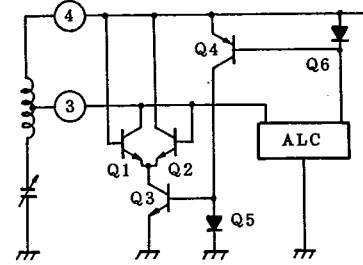

Fig.1 AM OSCILLATION CIRCUIT
1. AM OSCILLATION CIRCUIT (Fig.1)